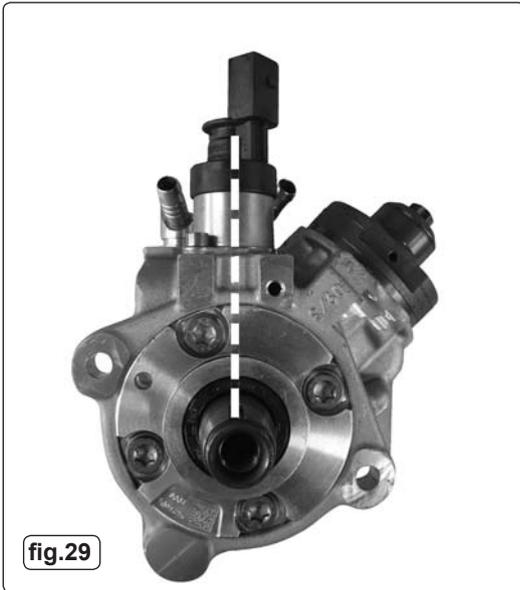

fig.29
3.4.2. Pump showing approximate position of keyway for installation (fig.29).